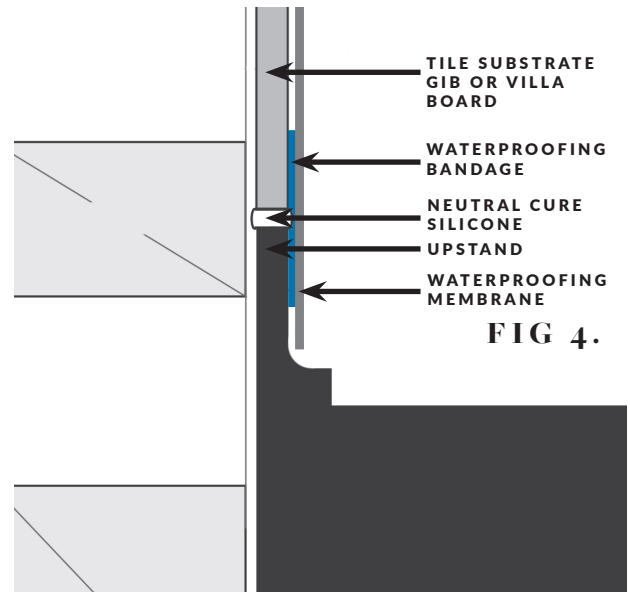

FIG 4.
- Seal between top of upstand and bottom of Gib with silicone, ensuring the inside face of both are flush. (FIG 4)